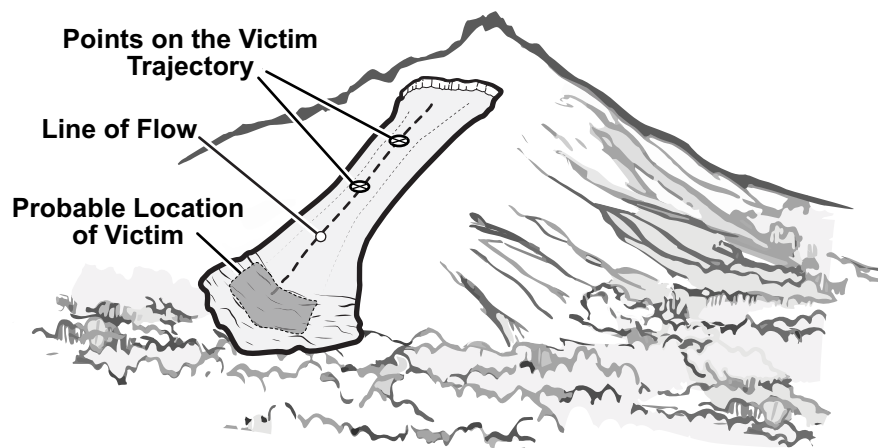

Figure 6-12. Suspected Burial Location.
- Draw a line from where the victim was caught, to the location of equipment, and then to the victim's last seen point. The end of this line may point to the most likely burial location (see Figure 6-12).